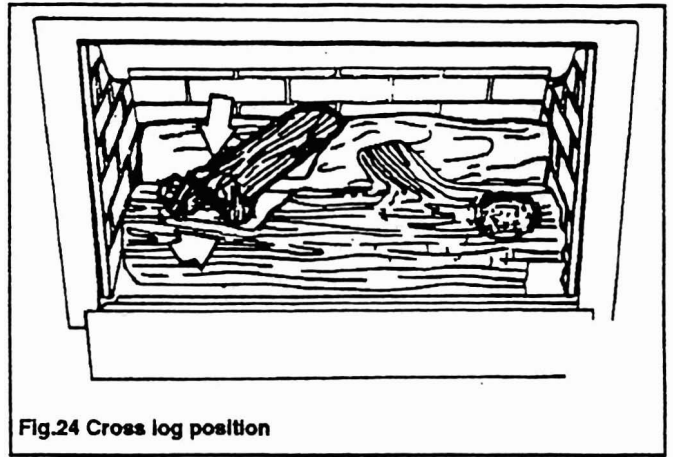

Fig.24 Cross log position
- 15.5 Place the cross log in position. The front of this log is indicated by the letter "F" embossed underneath. Make sure that the front of the log is seated inside the hollow in the front log and is not raised in front of it (see figure 24).